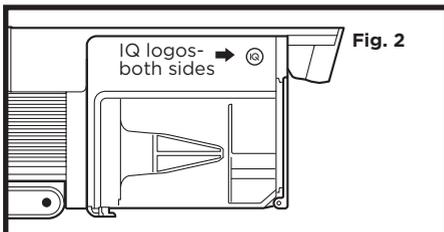

Fig. 2
2. Locate the sensors inside the nozzle of the hand vacuum. The sensors are on the interior walls of the nozzle, about 8 cm down the air path, aligned with the IQ logos (Fig.2) on the exterior.